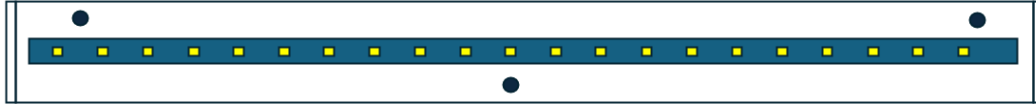

FIG. 17
- No holes next to the PCB is allowed, only use the center PCB holes as position markers (Fig. 17).